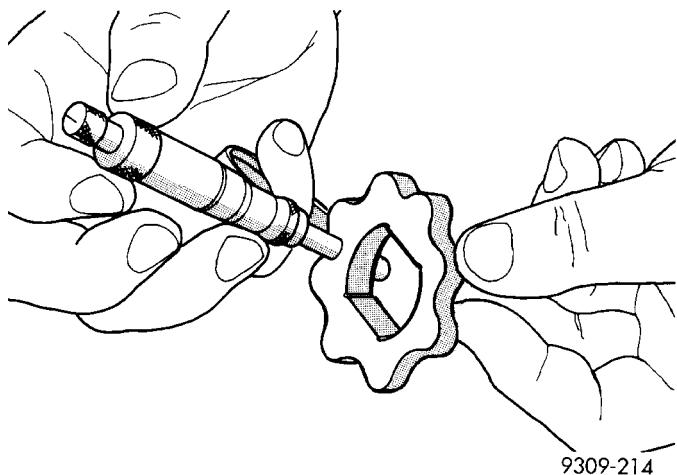

Fig. 109 Measuring Inner Rotor Thickness
(4) If inner rotor thickness measures 7.64 mm (0.301 in.) or less, replace inner rotor (Fig. 109).